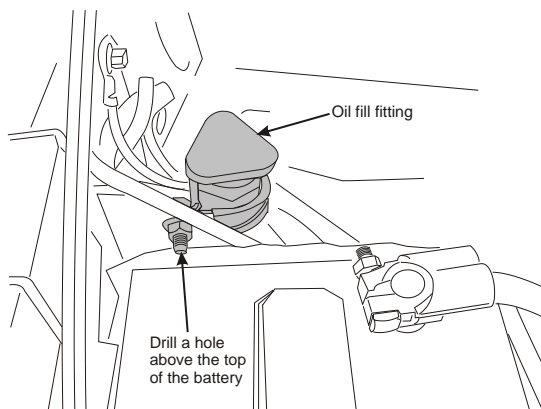

Figure 3.9
- ☐ Drill a hole in the battery box just above the battery to secure the oil fill hose and fitting (Figure 3.9).